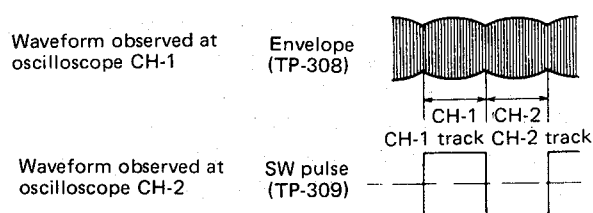

Figure 28.
- 2) Trigger with a switch pulse and observe the envelope (figure 28).